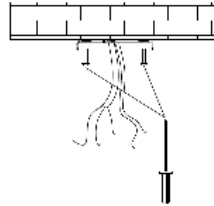

Fig. 8
3. Install the bracket of the pendant mount kit to the junction box and affix it with screws. (Fig. 8)